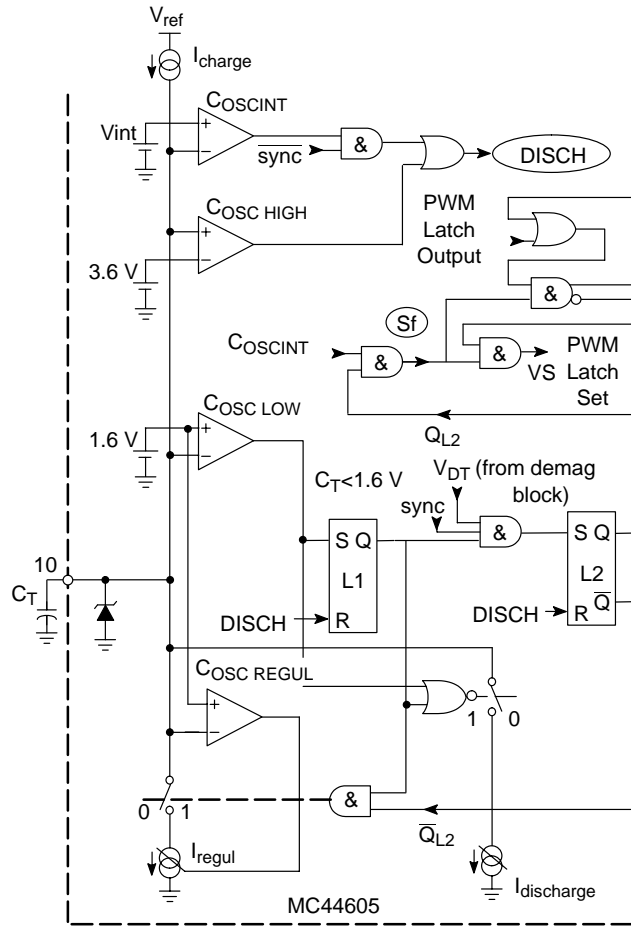

Figure 5. Oscillator
**Oscillator Section (Figures 5 & 5b)**